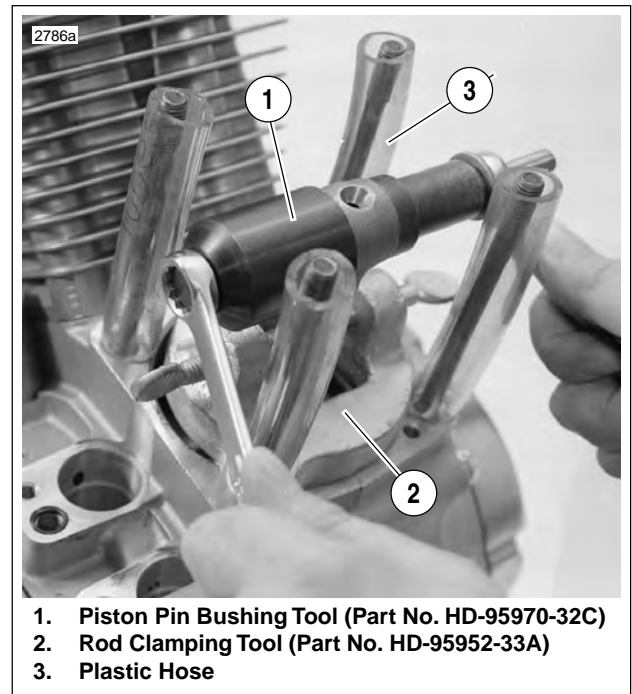

Figure 3-38. Installing New Piston Pin Bushing
1. See Figure 3-38. Install plastic hoses (3) over studs.
2. Secure connecting rod with CONNECTING ROD CLAMPING TOOL (2) (Part No. HD-95952-33A).